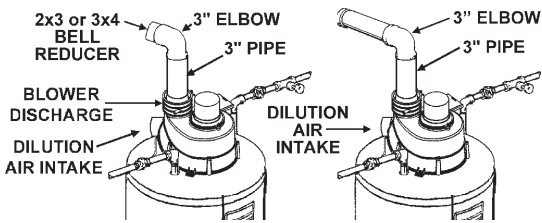

FIGURE 21.
3. Make sure there is no packing material in the discharge of the blower or the intake of the dilution air restrictor, see Figure 21.
Figure 21 shows the optimal placement of the 2" to 3" or 3" to 4" reducer; however, the vent can be reduced at any point in the vent system as long as the maximum vent length is not exceeded.
Except where instructed in this manual, the mixing of 2", 3" and 4" vent pipe is NOT ALLOWED. If 2" pipe is to be used, then a 2" to 3" bell reducer is recommended. Figure 21 shows the recommended location for the bell reducer. If the bell reducer is located at the rubber boot on the blower assembly, then a short section of 3" vent pipe needs to be installed in the rubber boot for proper connection of the 2" to 3" bell reducer. That length can be the minimum length required for the connection.
If 4" pipe is to be used, then a 3" to 4" bell reducer is recommended. Figure 21 shows the recommended location for the bell reducer. If the bell reducer is located at the rubber boot on the blower assembly, then a short section of 3" vent pipe needs to be installed in the rubber boot for proper connection of the 3" to 4" bell reducer. That length can be the minimum length required for the connection.